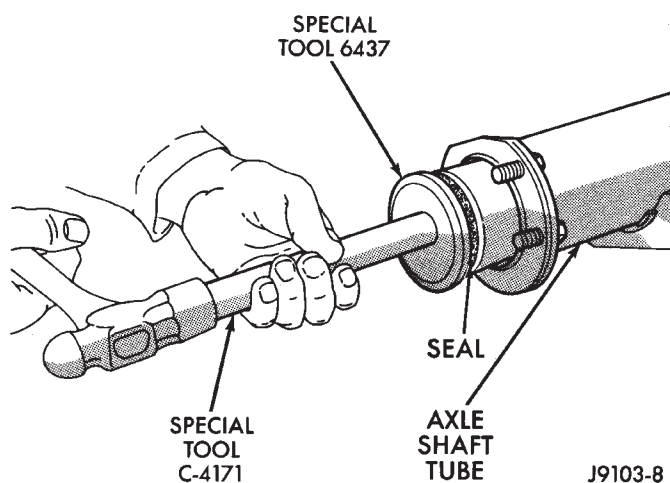

Fig. 16 Axle Shaft Seal Installation—Typical
(1) Wipe the axle shaft tube bore clean.
(2) Install axle shaft bearing with Installer 6436 and Handle C-4171. Ensure that the part number on the bearing is against the installer.
(3) Install the new axle shaft seal with Installer 6437 and Handle C-4171 (Fig. 16).